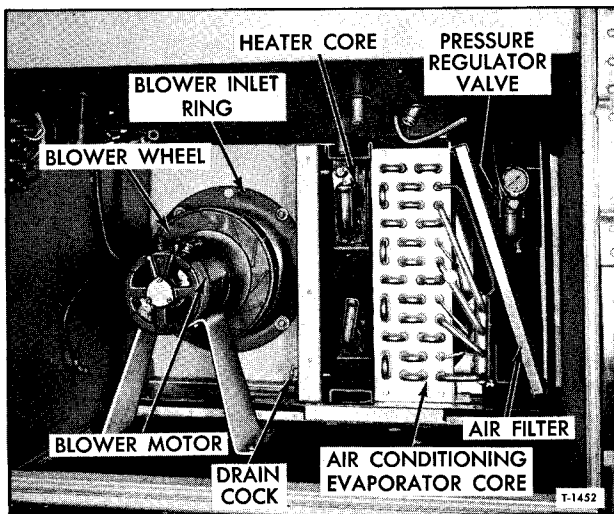
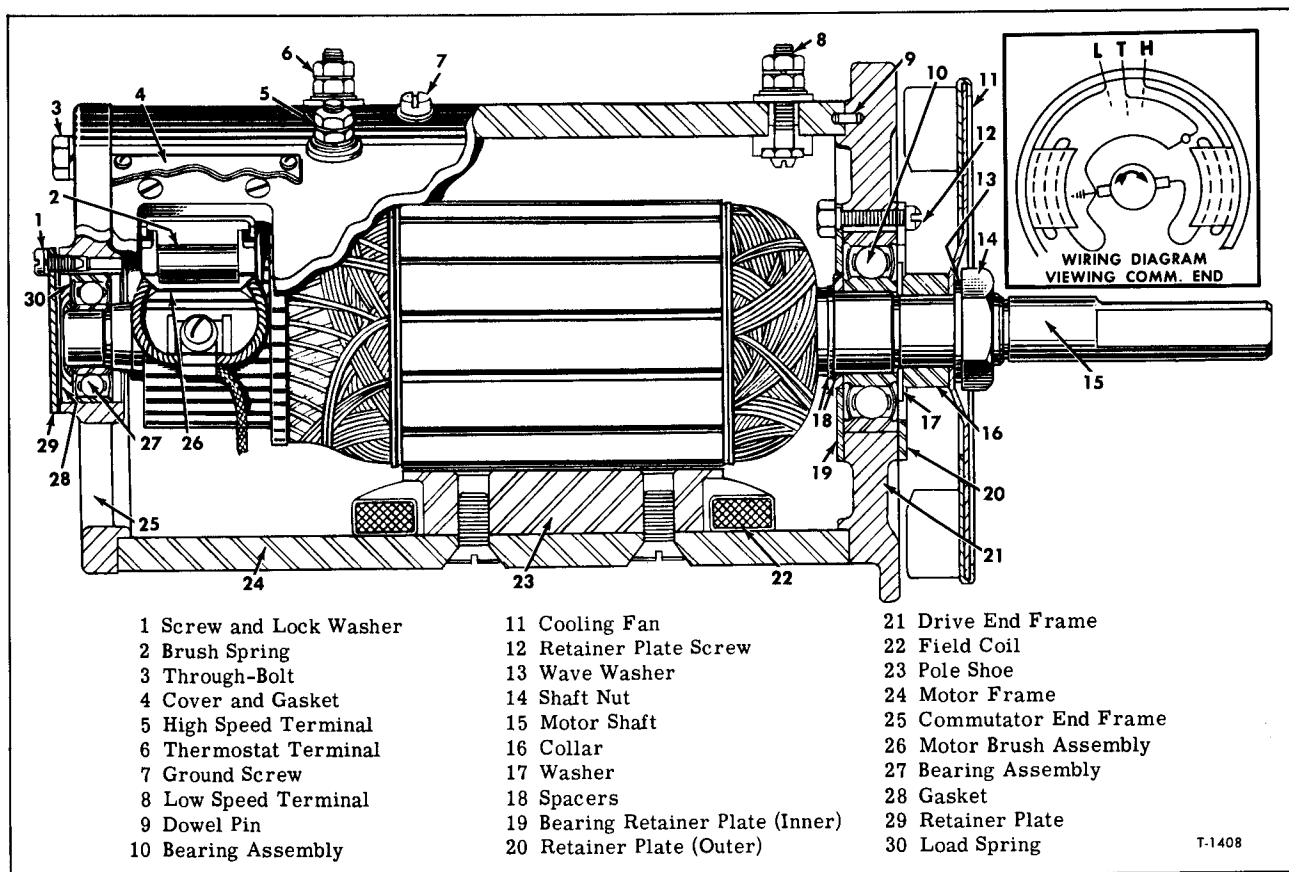

Figure 3—Heating and Air Conditioning Compartment with Inner Panels and Booster Heater Pump Removed
Figure 7—Blower Motor Cross Section
5. Remove bolts holding motor (fig. 3) mounting bracket to compartment floor, then remove the motor assembly with the mounting bracket and blower wheel as an assembly. Rear closure panel can now be removed.
The two blower motors (right- and left-hand motors, figs. 3 and 6) are identical, each being a two-speed unit having three insulated terminals and a ground wire screw. Motors are protected by an internal thermal unit through which the respective magnetic switches are grounded. This feature is same as used on earlier coaches having the single blower motor. Figure 7 shows motor construction and identifies terminals. Motor removal procedure is given previously in this section under "Blower Motor Replacement."
Key numbers in following text refer to sectional view of motor (fig. 7) unless otherwise indicated.